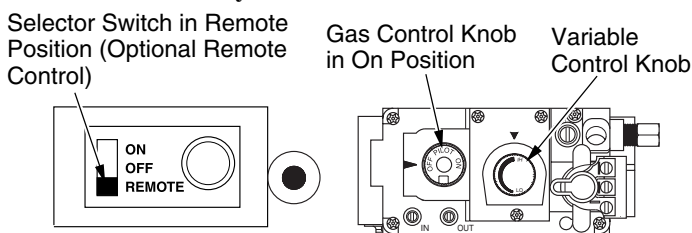

Figure 60 - Setting the Selector Switch, Control Knob, and Flame Adjustment Knob for Remote Operation
1. After lighting, let pilot flame burn for about one minute. Turn control knob to ON position. Adjust flame adjustment knob anywhere between HI and LO. Slide the selector switch to the REMOTE position (see Figure 60). **Note:** The burner may light if hand-held remote was on when selector switch was last turned off. You can now turn the burner on and off with the hand-held remote control unit.